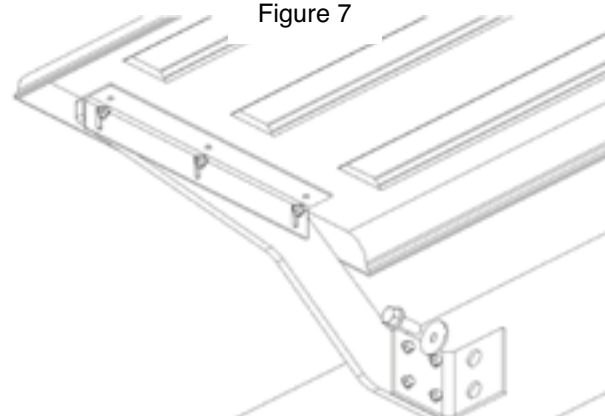

Figure 8
- A. Place the center bracket as close to the end of the fender as possible. Using the center bracket as a guide, drill three 5/16" holes in fender. Use the 5/16 x 1-1/4" supplied bolts to attach fender to bracket. Figure 8 shows a typical center bracket installation. Try and use existing holes to mount center bracket to truck frame.